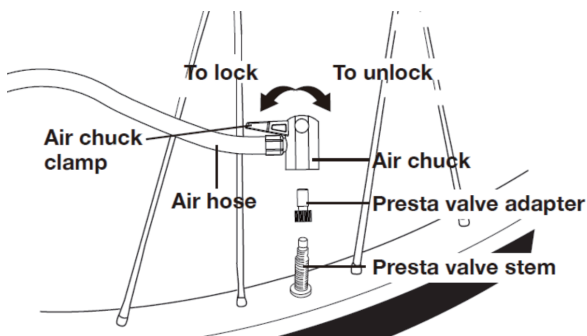

Fig. 9
2. Thread Presta valve adapter onto valve stem with a larger open end toward wheel (Fig. 9).
3. Clamp the end of the air chuck down onto the Presta valve adapter by pressing air chuck clamp down until it locks into place (Fig. 9).